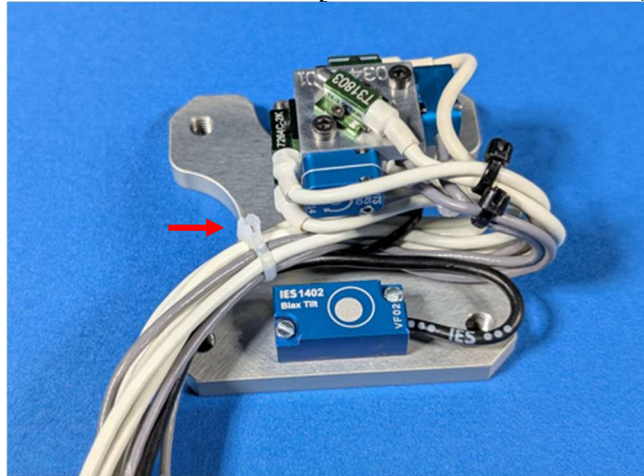

Figure 13-16. Wiring for all head accels and ARSs
- 13.4.1.3 Install the 6 axis accel/ARS mount to the accel mount and route the cables from the six accelerometers and the three ARSs together and through the space between the mount and tilt sensor. Tie wrap all wires into a bundle (Figure 13-16).